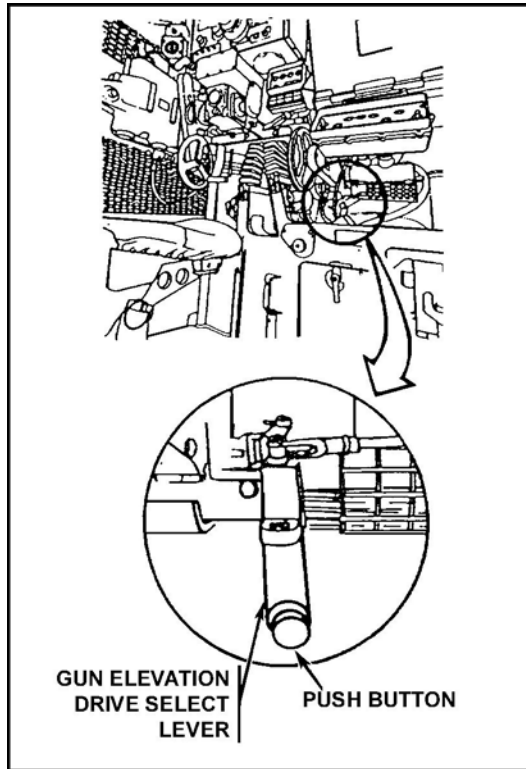

Figure 3. Gun elevation drive select lever.
- (1) Press and hold the push button.
- (2) Move the select lever left to the MANUAL position and release the push button.
b. Move the gun elevation drive select lever to the POWER position (Figure 3).